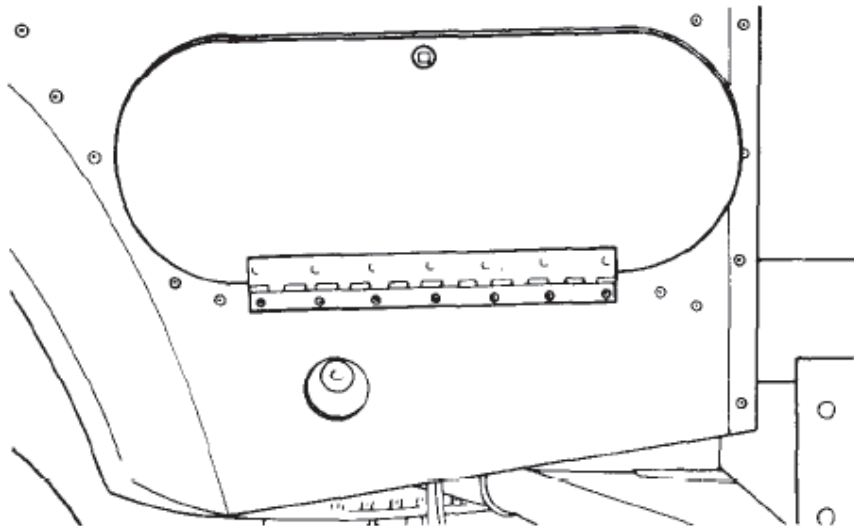

Figure 5 Tool Box and Wheel Arch Trim – Left Side
13. **Toolbox.** A toolbox is incorporated on each side of the rear body to the rear of the wheel arch (Figure 5). Each tool box is equipped with a hinged lockable lid providing storage for the hydraulic jack and the vehicle's tool kit. A wheel arch trim is positioned over each wheel arch and secured to the side panels by plastic rivets.